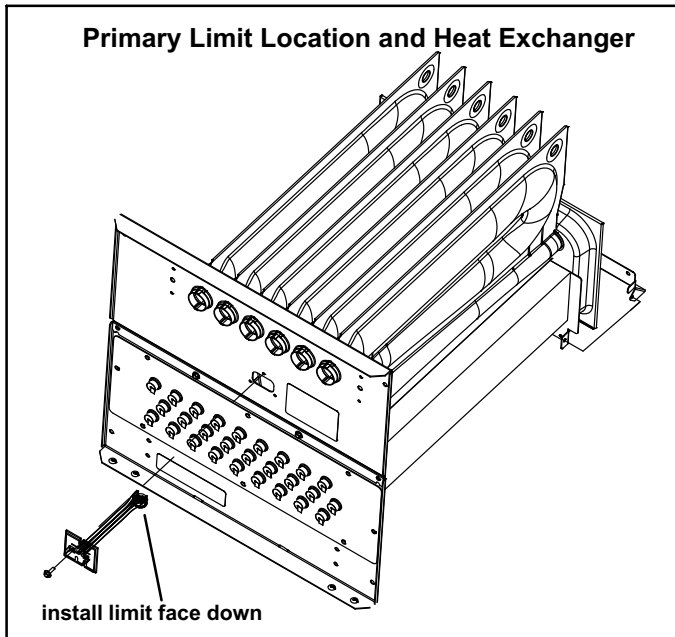

FIGURE 15
5. Duralock Plus™ Heat Exchanger (Figure 15)
Figure 15 shows the primary limit (S10) used on SLP98DFV units located in the heating vestibule panel. When excess heat is sensed in the heat exchanger, the limit will open. Once the limit opens, the furnace control energizes the supply air blower and de-energizes the gas valve. The limit automatically resets when unit temperature returns to normal. The switch is factory set and cannot be adjusted. In the event of restricted air flow, the integrated control will reduce firing rate and indoor blower airflow in 10% increments until a sustainable air flow is reached. If the furnace reaches 35% firing rate, and adequate air flow is not available, the furnace will shutdown and enter one hour watchdog. For limit replacement remove wires from limit terminals and rotate limit switch 90 degrees. Slowly remove from the vestibule panel.